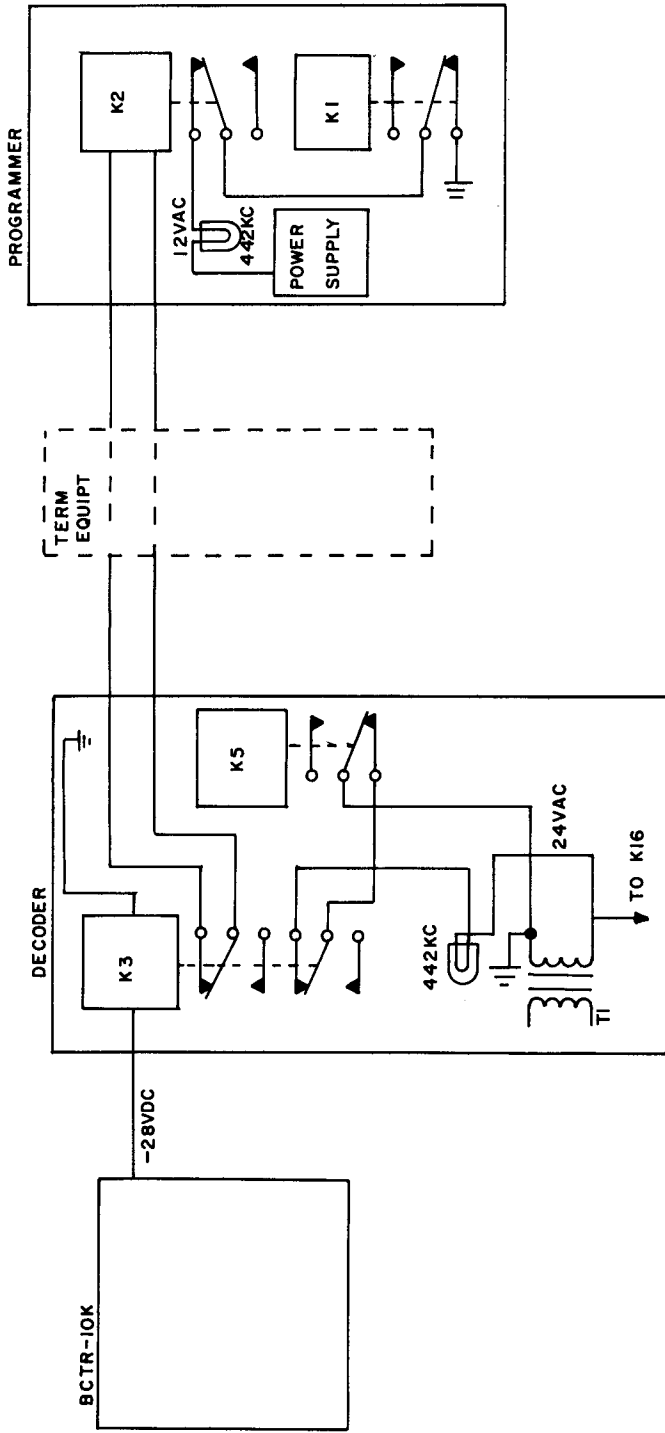

Figure 3-4 Frequency Readback Indication
d. READBACK INDICATION CIRCUIT OPERATION (Refer to Figure 3-4). - When an operating frequency such as 442KC has been selected by the Programmer, the command signal is applied to the BCTR-10K making it tune to the selected frequency.